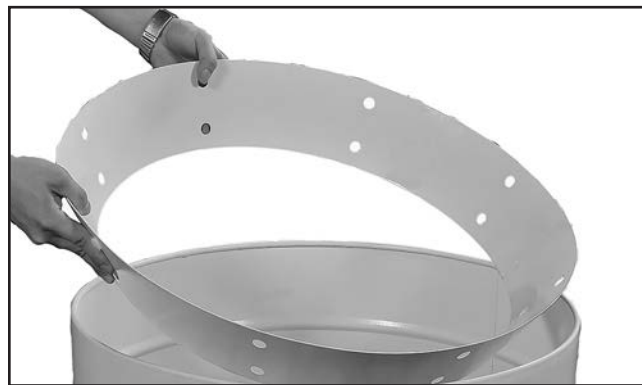

Figure 20. Inserting collection drum vacuum ring.
17. Place collection drum vacuum ring on bottom of collection drum (see **Figure 20**).